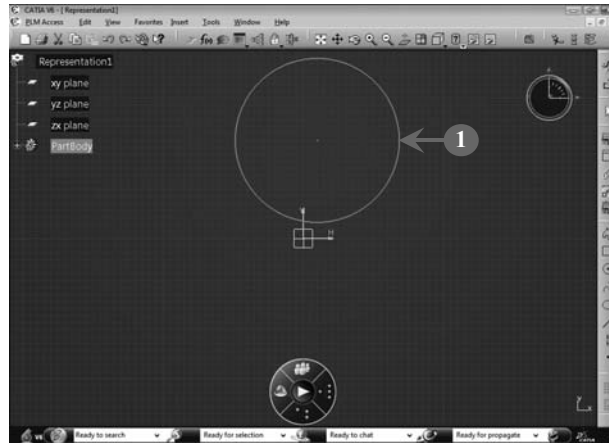

FIGURE 2.73
1. *Select* the sketch to which you want to apply the dimensional constraints. In our case, we select a circle, as shown in **Figure 2.73**: